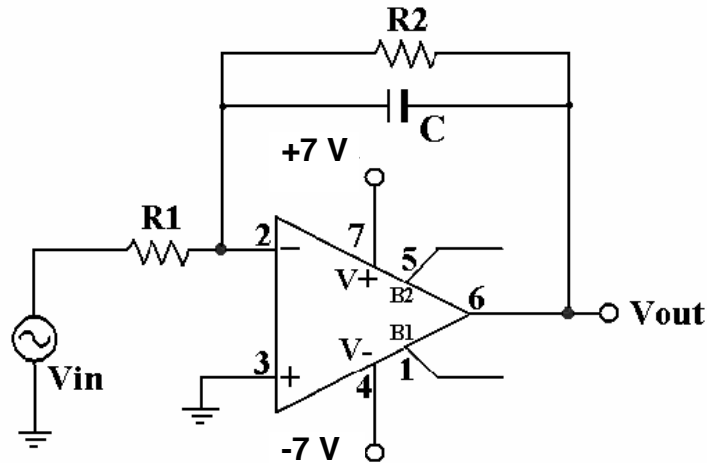

Fig 2. Lossy integrator circuit
The output is directly proportional to the integral ( $1/s$  term) of the input signal, and a steadily changing output voltage is produced for a constant amplitude sinusoidal input voltage. Notice that the DC gain ( $s=0$ ) at the output is theoretically infinite; hence any small DC signal at the input will saturate the Opamp output over time. In a real integrator circuit, a large resistor in parallel with the capacitor is required to prevent the capacitor from storing charge due to offset currents and voltages at the input. This configuration is known as “lossy” integrator or a first order low-pass circuit, which is shown in Fig. 2.
1. For the lossy integrator in Fig. 2 with power supplies  $\pm 7$  V, and assuming the Opamp is ideal, derive the time-domain equation for the output in terms of the input. Show that the circuit performs as an integrator.